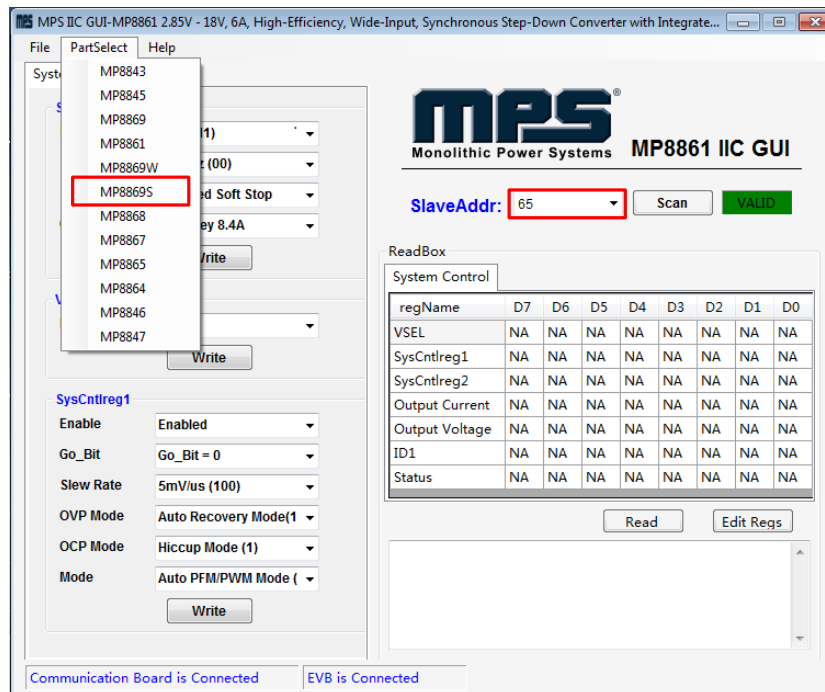
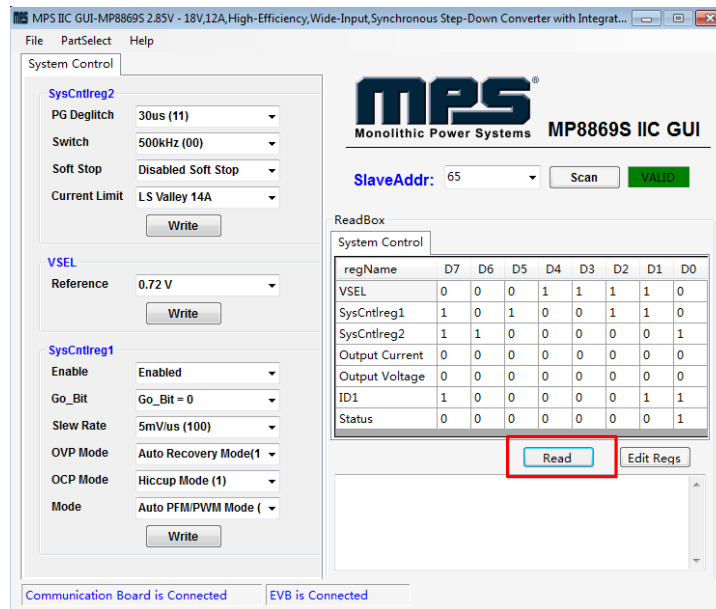

Figure 7: Appearance of Address Indicates Successful Connection
Figure 9: Values from I²C Shown in Table
- If the connection is successful, the address will be listed in the “Slave Address” (see Figure 7).
- Click the “Part Select” button to select the MP8869S (see Figure 7). The default GUI window is for the MP8861. The Register Control menu will appear on the left side. I²C register values will be read and displayed on the right side after clicking the “Read” button (see Figure 9).